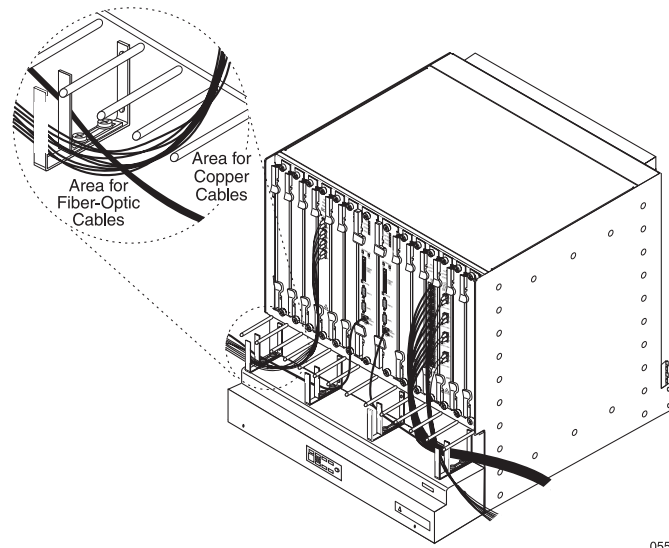

Figure 19 Cable Routing at the Front of the SmartEdge 800 Chassis
Using the adjustable cable tray, you connect and route the copper cables, with the exception of the FE–GE breakout cables, from the outer slots first, working inward, placing them in the inner partition. After all copper cables are routed, you can connect and route the fiber-optic cables in similar fashion, but placing them in the outer partition; see Figure 19. You then connect and route the management access cables and finally the FE–GE breakout cables. Cable connections are made with standard cables.
1. Connect and route the copper cables; see Figure 19
2. Connect and route the fiber-optic cables; see Figure 19